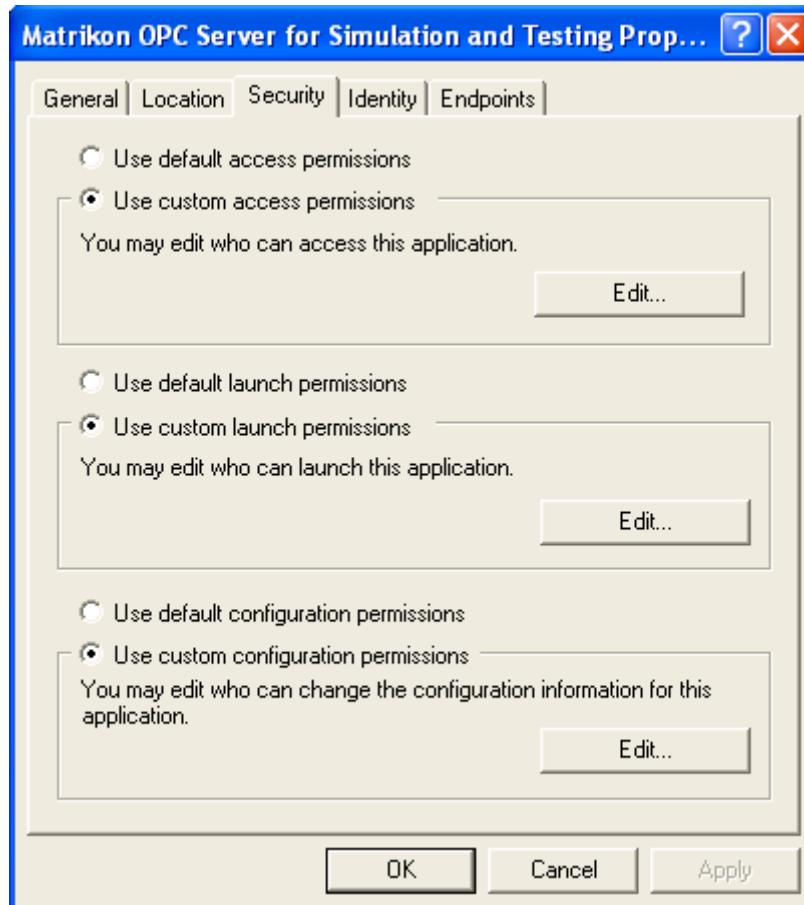

Figure 42 - Distributed COM Configuration Security Tab
5. The **Distributed COM Configuration Security** tab (Figure 42) appears.